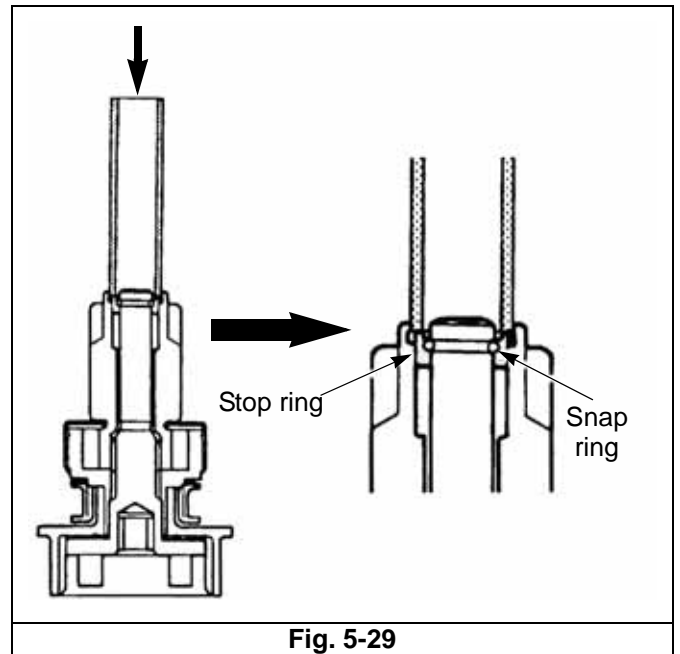

Fig. 5-29
4. Slide yoke ⑨ away from front bracket ⑩.
5. Remove armature ⑪ and ball ⑫. Do not lose ball when removing the armature.
6. Remove rubber cover ⑬ from planetary gear assembly ⑳ and remove lever packing ⑭ and plate ⑮.
7. Remove planetary gears ⑯. Remove gear shaft/overrunning clutch assembly ⑱ and lever ⑲ as a unit from front bracket ⑩.
8. To remove overrunning clutch ⑱:
- a. Remove plastic cap ⑳. If the cap is too badly distorted or cracked, replace.
- b. Slide a piece of tubing of suitable size over shaft against stop ring ⑳ (see page 5-14, Fig. 5-28 and page 5-15, Fig. 5-29).
- c. Then tap the tubing with a hammer to remove the stop ring and expose snap ring ㉑ (see page 5-14, Fig. 5-28 and page 5-15, Fig. 5-29). Remove the tubing from the shaft.
- d. Remove the snap ring and the stop ring and separate the overrunning clutch ㉒ (see page 5-14, Fig. 5-28 and page 5-15, Fig. 5-29) from the gear shaft ㉓ (see page 5-14, Fig. 5-28 and page 5-15, Fig. 5-29). If the snap ring is distorted, it will be necessary to use a new one on reassembly.